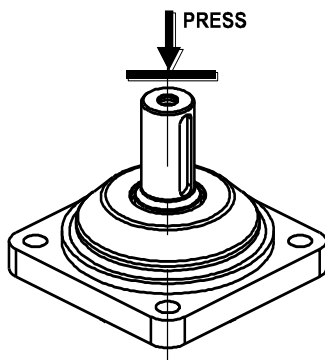

Fig.6
12. Fix Housing in a hydraulic press and push output shaft with bearing kit out of housing (see Fig.6).